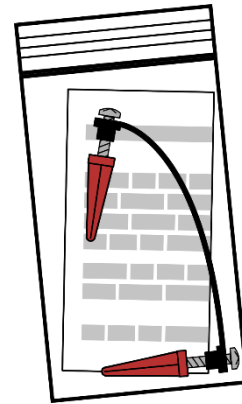

Figure 2 - Mounting Bracket and Instructions
- 1x Mounting Bracket (*Figure 2*)